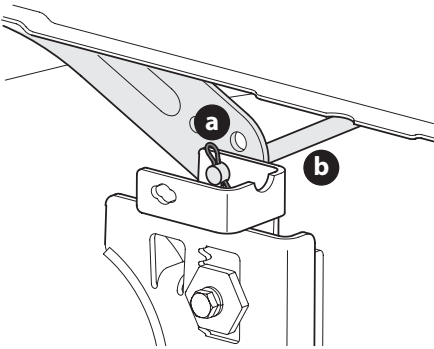

Figure 27
5. Looking at the cutting deck from the left side of the tractor, locate the bow-tie pin (a) that secures the deck support rod (b) on the rear left side of the deck (Figure 27 on page 27). Remove the bow-tie pin (a) that secures the deck support rod (b), and carefully remove the deck support from the deck lift arm.